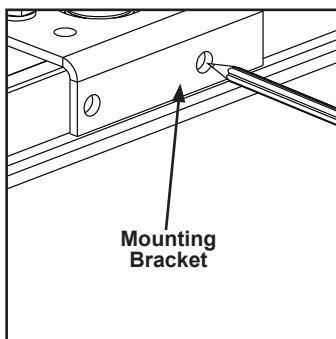

Figure 3-45
- Step 1. Use rail mounting bracket as template to mark rail. See Figure 3-45.